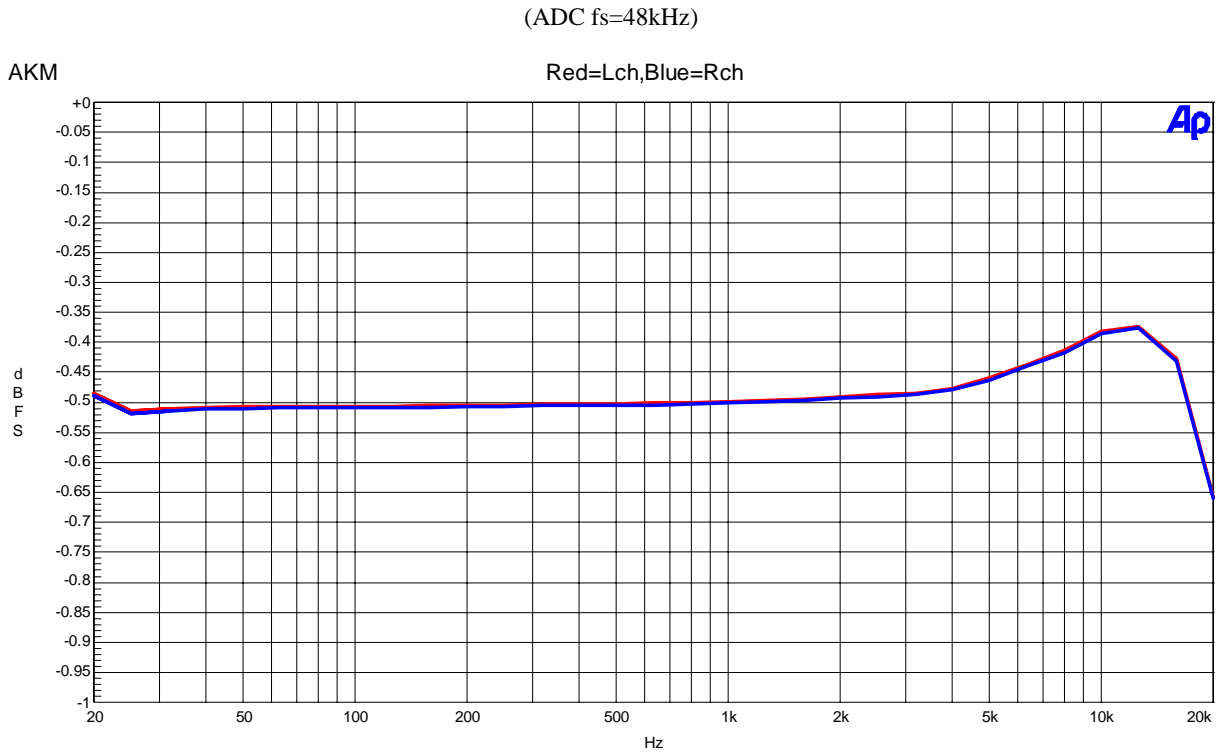

Figure 14. Frequency Response(including input RC filter) (Input Level=-0.5dBFS)
- Figure 14. Cross-talk (Input Level=0dBFS)